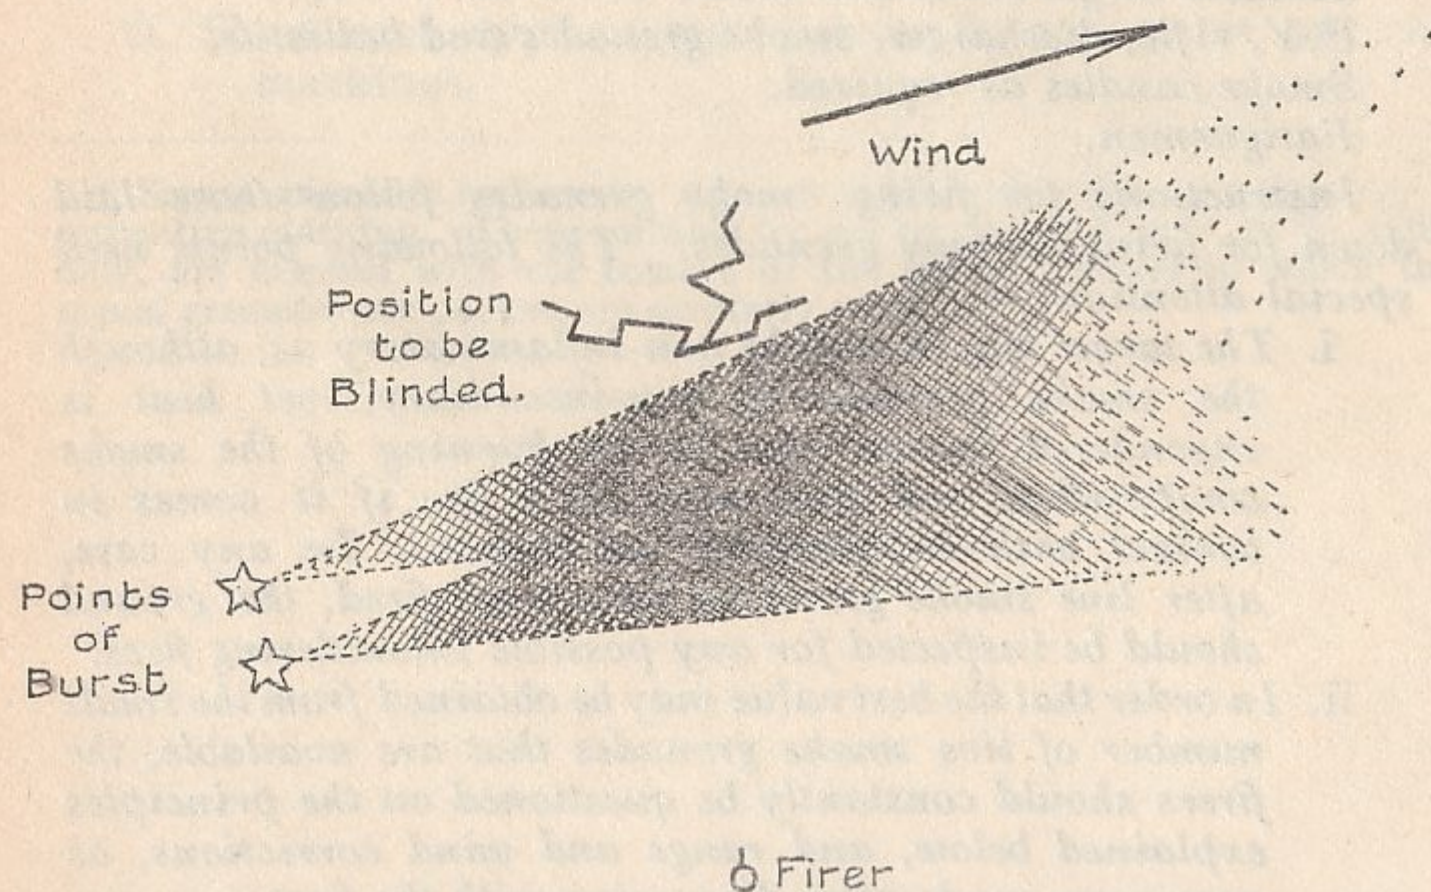

FIG. 9.—Employment of Smoke Grenades (Side or Cross Wind).
*(a) A side or cross wind is the most favourable and requires the least number of grenades. Three or four grenades fired by a single firer should normally be sufficient for a platoon operation and are enough to provide a screen lasting some three or four minutes (see Fig 9).*